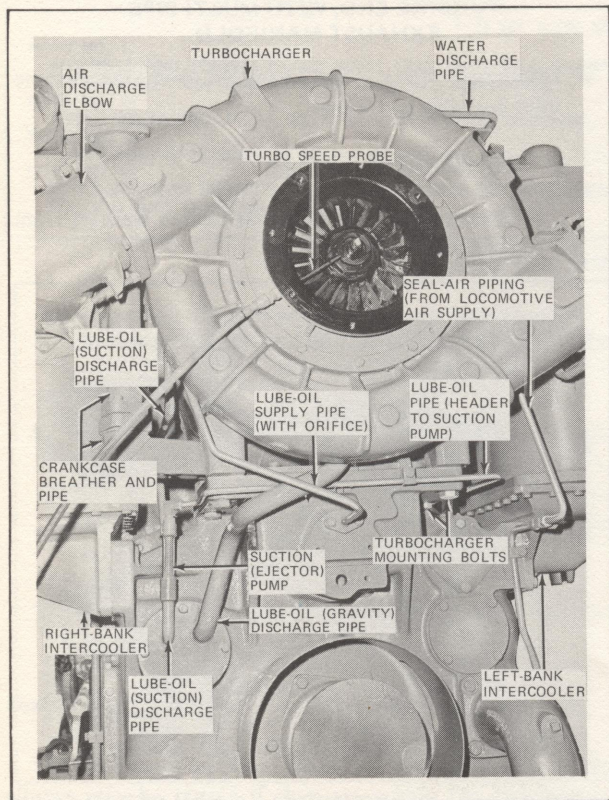

FIG. IX-107. TURBO INSTALLATION DETAILS, COMPRESSOR END.
7. Remove the two air-discharge elbows, Fig. IX-107.
10. Refer to Fig. IX-107. Disconnect and remove the external lube-oil piping in the following order: